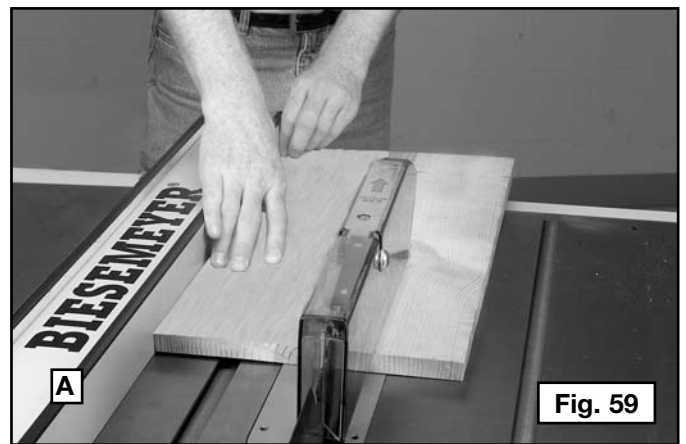

Fig. 59
Ripping (Fig. 59) is cutting lengthwise through a board. The rip fence (A) is used to position and guide the work. One edge of the work rides against the rip fence while the flat side of the board rests on the table.
1. Before starting the cut, raise the blade so that it is about 1/8" (3.2mm) higher than the top of the workpiece. Start the motor and advance the work, holding it down and against the fence. **Never** stand in the line of the saw cut when ripping. When the rip width is 6 inches or wider, hold the work with both hands and push it along the fence and into the saw blade (Fig. 59). Feed force when ripping should always be applied between the saw blade and the fence. Never pull the workpiece from the back of the saw. The work should then be fed through the saw blade with the right hand. Keep pressure on the workpiece against the fence and down on the saw table. Ensure that you have adequate outfeed support for the workpiece and **KEEP YOUR HANDS AWAY FROM THE SAW BLADE.**